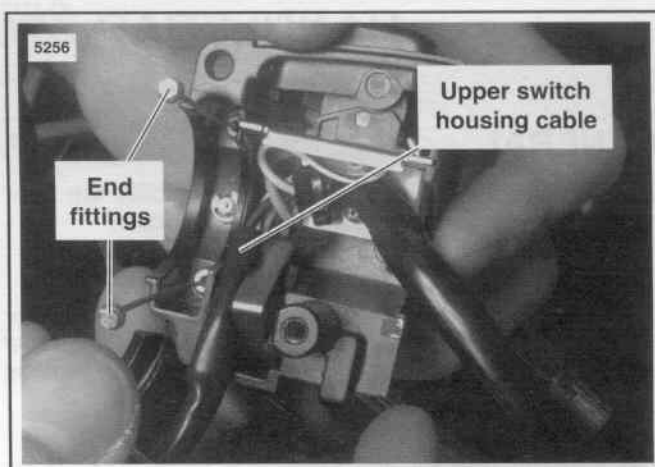

Figure 8-62. Route Cable to Upper Switch Housing
3. See Figure 8-62. Route the cable to the upper switch housing as shown.